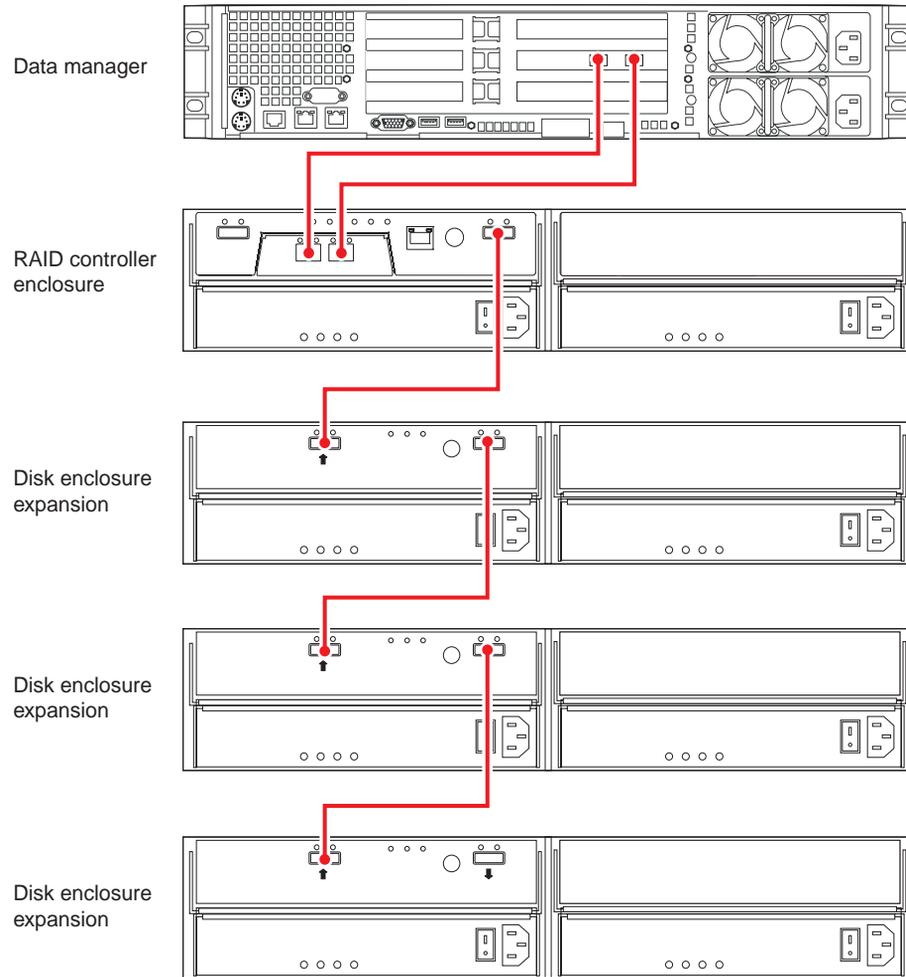

Figure 1-14 Data Manager, Single-Controller RAID Enclosure and Three Disk Expansion Units
Use the following steps and Figure 1-14 to cable a data manager to a single-controller SATA RAID enclosure and three disk expansion enclosures.
1. Connect the Data Manager's Fibre Channel PCI card port A to the RAID controller's host 1 port in the controller enclosure, see Figure 1-14.